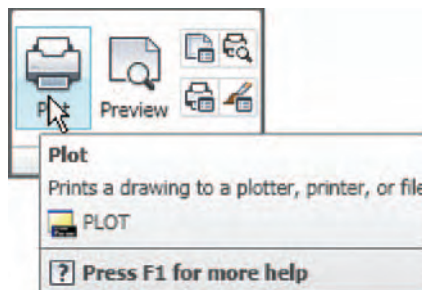

Fig. 19.7 The **Plot...** tool icon from the **Output/Plot** panel
8. Click the **Plot** tool icon in the **Output/Plot** panel (Fig. 19.7). A **Plot** dialog appears.